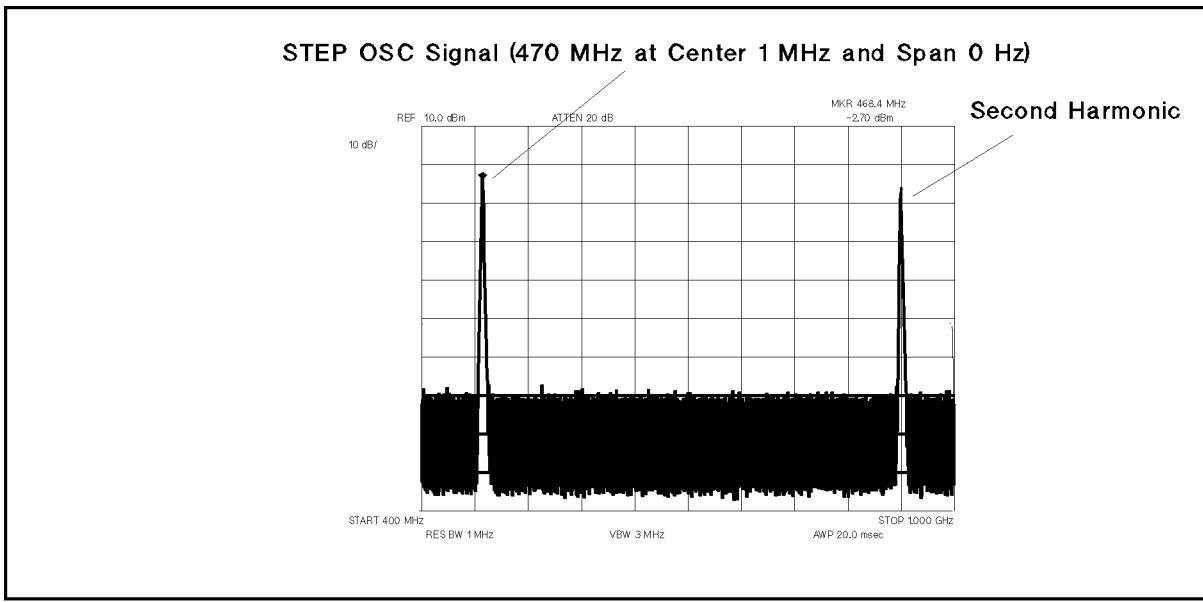

Figure 7-8. Typical STEP OSC Signal at Center 1 MHz
- Check that the trace displayed on the spectrum analyzer is as shown in Figure 7-8.